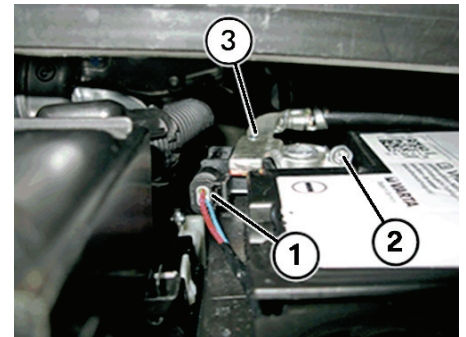

Fig. 2 Battery ground cable removal
5. Unlock and disconnect connector (1), **Fig. 2**.
6. Loosen nut (2) and disconnect battery ground cable (3) and secure at side, **Fig. 2**.
7. Install battery ground cable (3) and **torque** nut (2) to 44 inch lbs., **Fig. 2**.
8. Connect connector (1), **Fig. 2**.